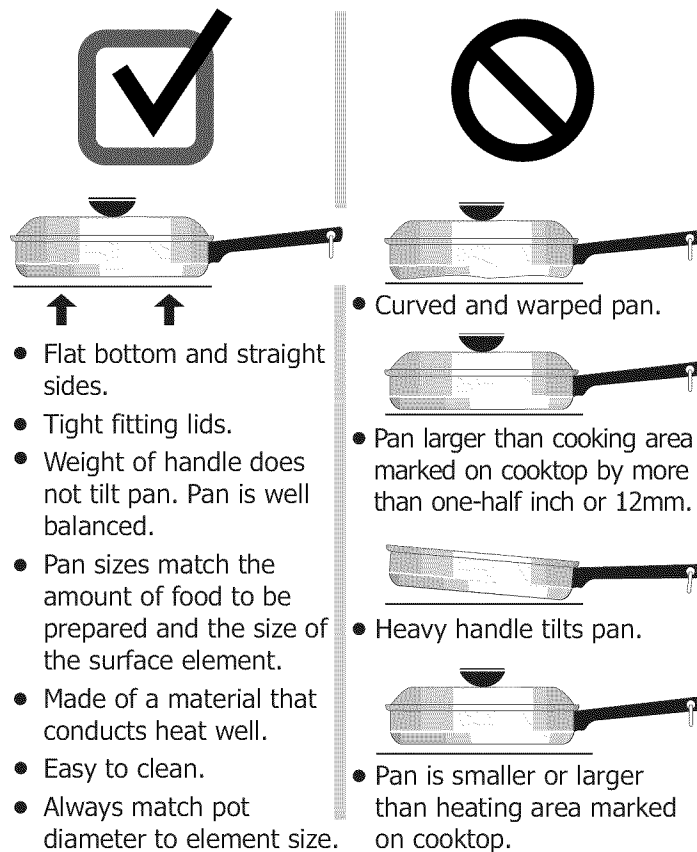
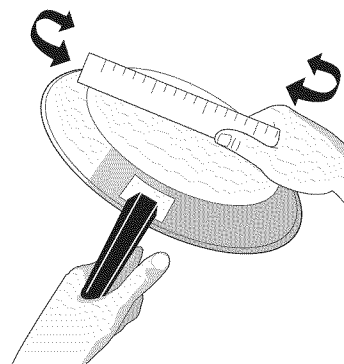

Fig. 2
Fig. 3
The size and type of cookware used will influence the setting needed for best cooking results. Be sure to follow the recommendations for using proper cookware as illustrated in Figs. 2 & 3.
Cookware should have flat bottoms that make good contact with the entire surface heating element (See Fig. 2). Check for flatness by rotating a ruler across the bottom of the cookware (See Fig. 3). For more information about the ceramic cooktop see "Cooktop Cleaning & Maintenance" in the **Care & Cleaning** section.
2. Push in and turn the surface control knob in either direction (Fig. 2) to the desired setting (Refer to the **Suggested radiant surface element settings table** Fig. 1). Start most cooking operations on a higher setting and then turn to a lower setting to finish cooking. The surface control knobs do not have to be set exactly on a particular spot. Use the graphics provided as a guide and adjust the control knob as needed (See Fig. 2). Each surface element provides a constant amount of heat at each setting. A glowing red surface heating area extending beyond the bottom edge of the cookware indicates the cookware is **too small** for the surface heating area.
Suggested settings for single and dual radiant elements table (use with Fig. 3)